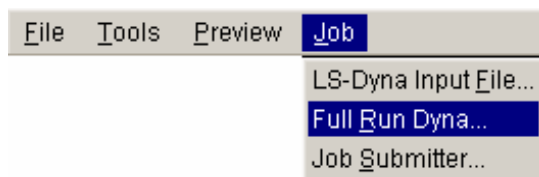

Figure 6.12 Job Submitter menu
1. Select **Job→Full Run Dyna...** in the menu bar. See Figure 6.12.